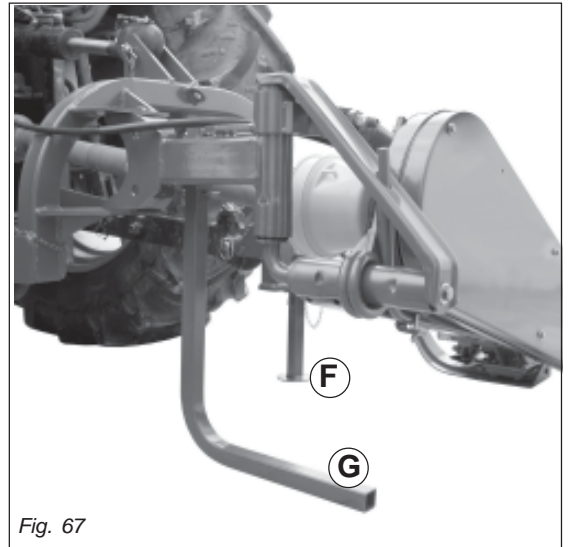

Fig. 67
- Lastly, store the implement in a dry place where it cannot be tampered with by unauthorized persons; the mowing machine must be set-up on flat and compact ground, supported by the relative supports (F and G, Fig. 67).